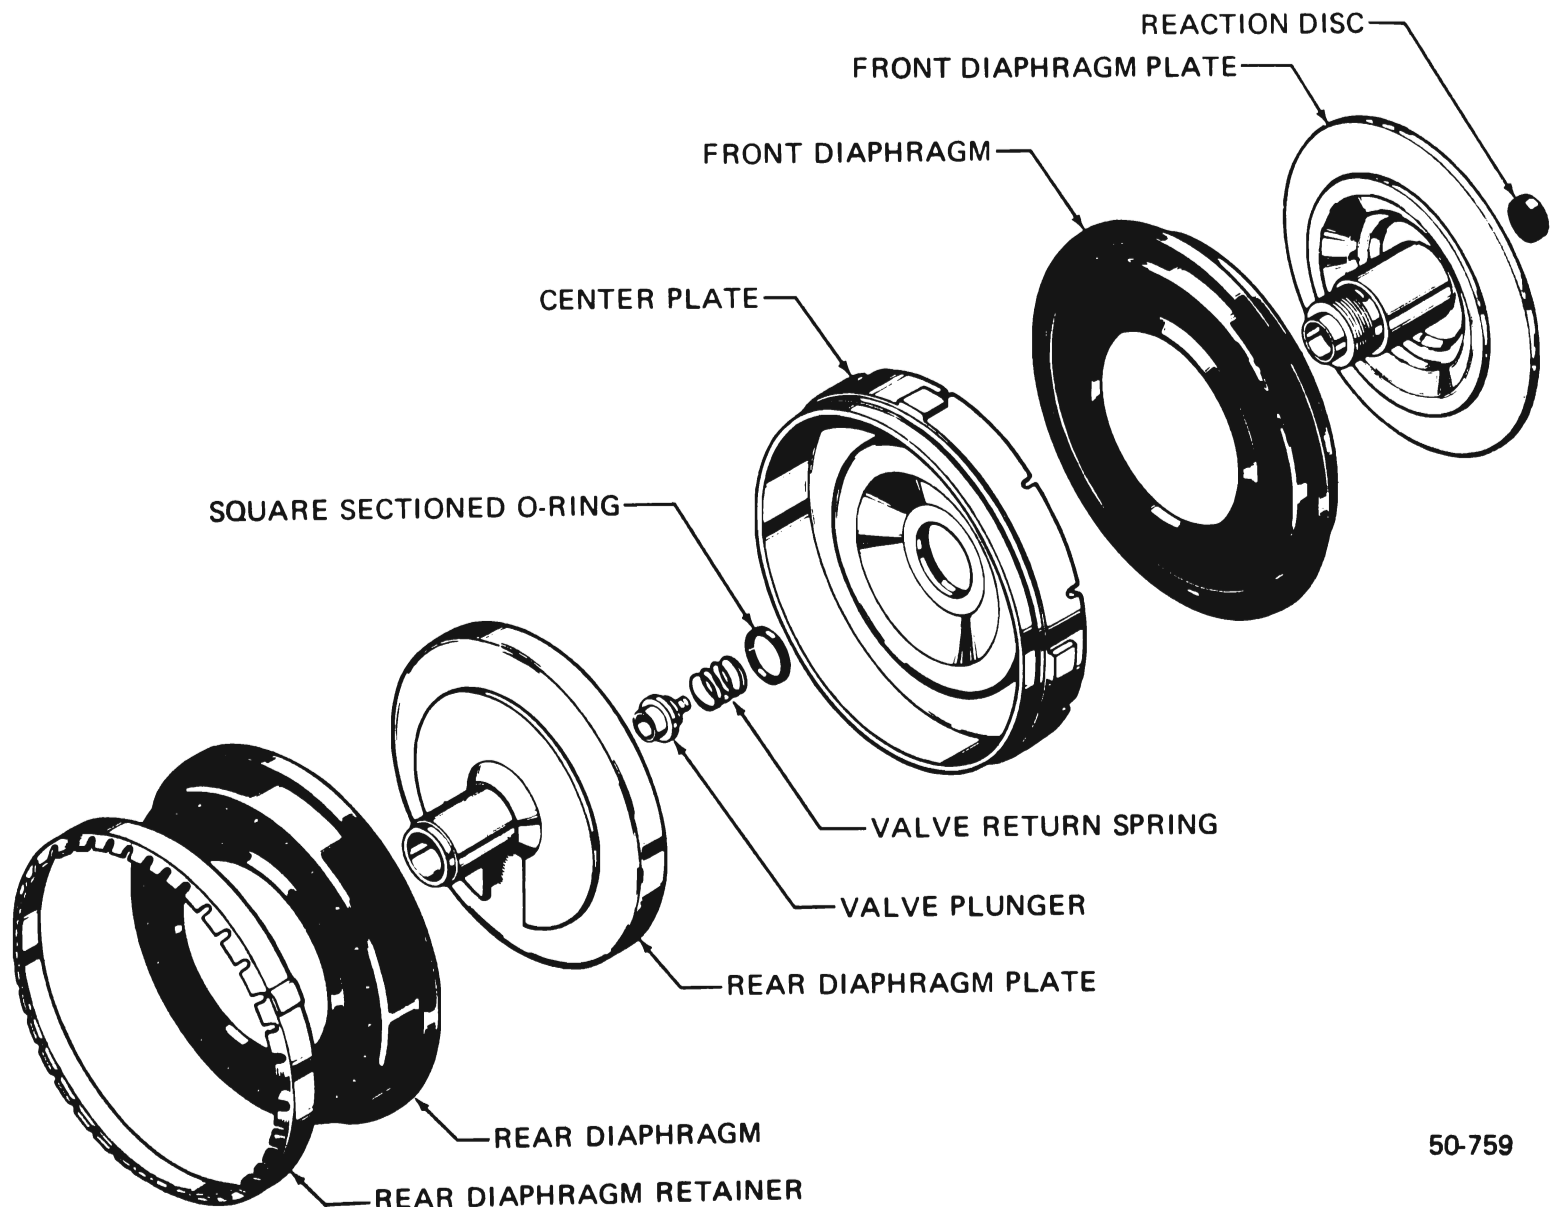

Figure 50-134 Diaphragm and Plates
21. After the two (2) plates have been loosened, remove the plates from Tool J-22839 and place on a bench with the front plate down. Unscrew the rear plate completely and carefully lift it off the front plate hub, grasping the valve plunger and valve return spring as the parts are separated. See Figure 50-134.